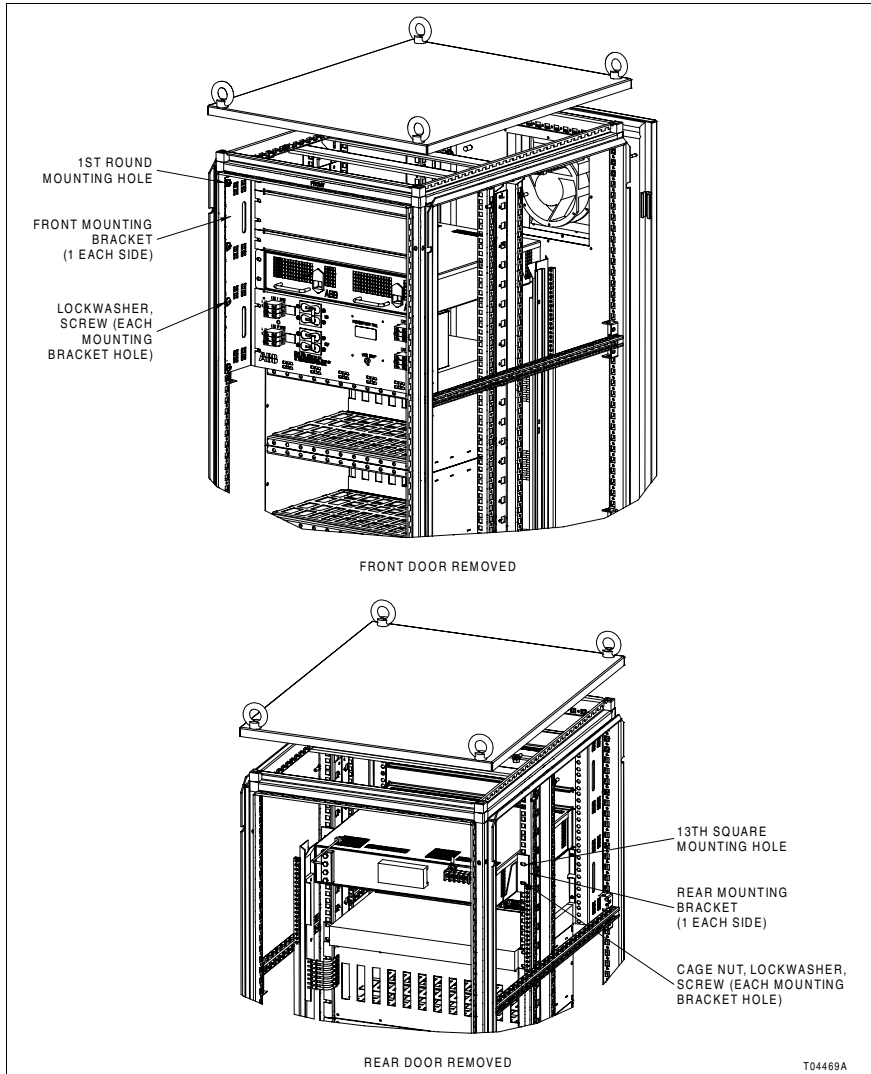

Figure PR2-1. Mounting Bracket Installation
- 1. Align the top hole in one of the front mounting brackets with the first round mounting hole from the top of the cabinet on the frame as shown in Figure PR2-1.
NOTE: Figure PR2-1 shows a single power chassis installation.
- 1. Install two cage nuts on the 13th and 18th holes on the left (when viewed from the rear of the cabinet) vertical mounting rail inside the cabinet as shown in Figure PR2-1.